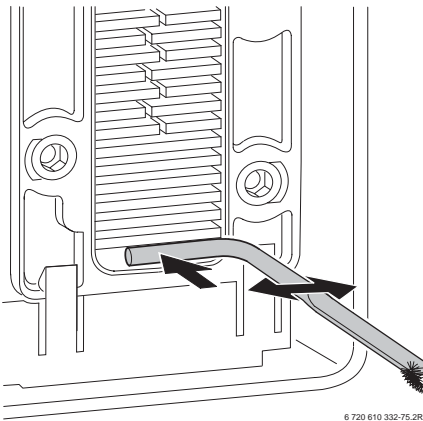

Fig. 40
- ▶ Flush the heat exchanger from the top. Refer to fig. 40.